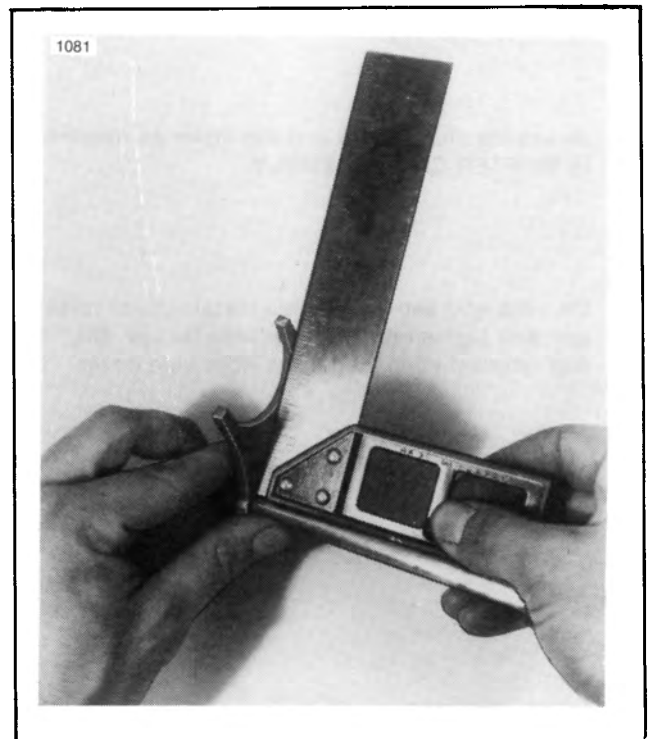

Figure 7-9. Checking Fork
3. See Figure 7-9. Check to see if fork is square on the shaft using a small carpenter's square. If fork does not rest directly on the square, it is bent and must be replaced.